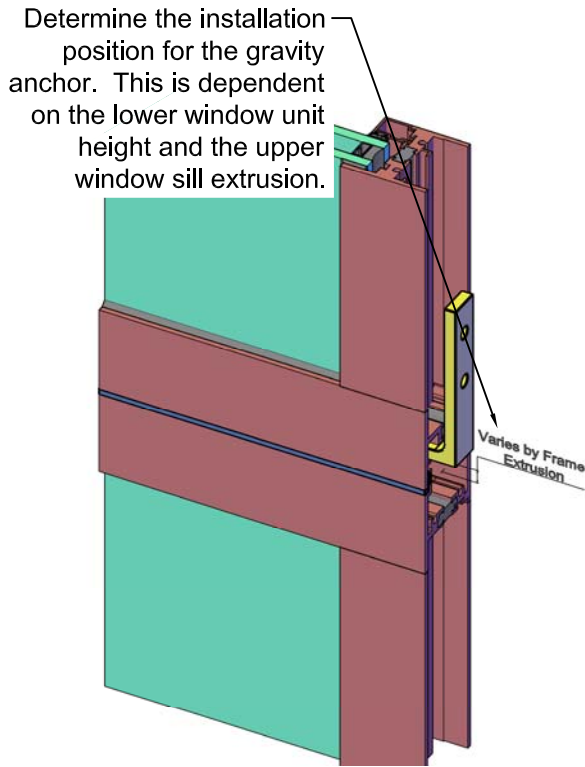

Fig. 3
3) Determine the vertical position of the gravity anchor. Since this will vary with the frame sill extrusion used on your project, these instructions cannot provide a formula for each instance. Measure the distance from the sill edge of the window frame to the interior (concealed) area where the gravity anchor will support the window. Subtract 1/4" plus any allowance for a thermal separator shim if required. This is the location of the bottom surface of the gravity anchor. The gravity anchor is factory pre-drilled with 2 holes for \varnothing 1/4" fasteners. See Fig. 3